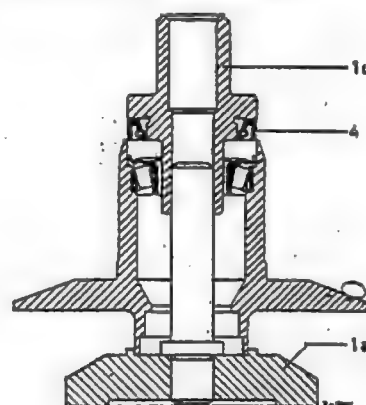

Fig. 33-5/7
18. Coat the circumference of the seal (4) with sealing compound and press in by means of Assembly Fixture 120 589 03 61 or 111 589 13 61 (Fig. 33-5/7).